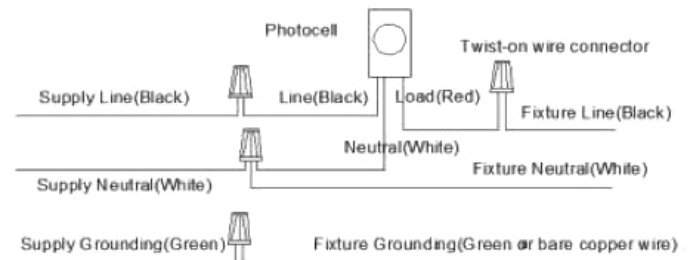

FIG. 2
1. This can install on Junctions Box (see FIG.1) or fix into the ground as FIG.2, then fixed by a 1/2 NPS, refer to the FIG.3 connection diagram.